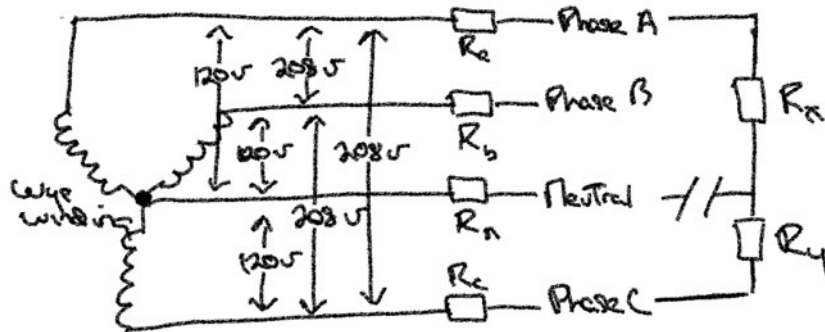

Figure 4: Line drawing of distro system with loads.
To keep things simple, I imagine an extreme situation (Figure 4) where there are only two loads (R_x) and (R_y) connected on only two legs (A & C) and nothing on the third leg (B). I note the system impedances (R_a , R_b , R_c) and the impedances of our loads (R_x and R_y .) I disconnect the neutral.